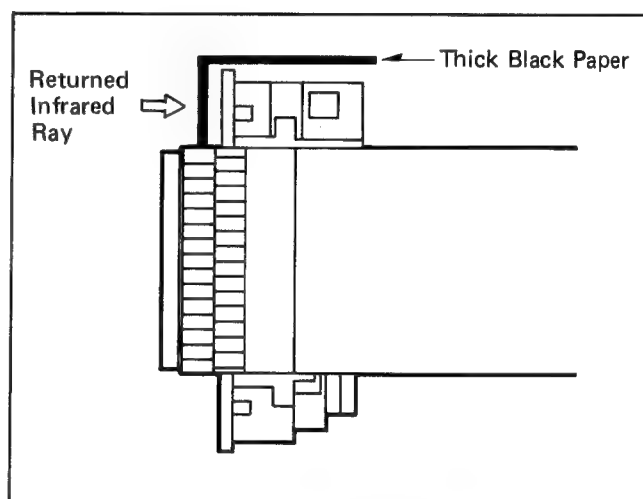

Fig. 6 Covering Method
3. Cover the distance detection window (receiver side) with the thick black paper as shown in Fig. 6.